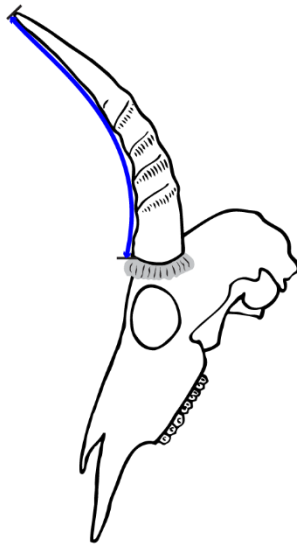

Figure 11 Reedbuck
All species of reedbucks, but especially the common reedbuck, form a pulpy section at the base of the horn. This soft material can easily be penetrated with the point of a knife. This is horn in formation but not hard horn, and it must not be measured. Probe the horn for soft material with a knife point; the demarcation between soft and hard horn will be the point where you start your measurement. (Figures 11 and 12) Most of the soft, green material will be removed during the cleaning process, but sometimes a leather like residue will remain. This should not be measured, so be careful where you place the tape measure at the start. A reedbuck is best measured after cleaning but before mounting as the exact base of the horn will be much more easily discerned. With mounted reedbuck heads, you will often find the taxidermist has used materials to build up an artificial pulpy section—this artificial material must not be measured. With a mounted head, remember that just because the material feels hard to the touch, this does not mean it is horn. Probe with a knife point to find out where to start the measurement of the horn length.
1. Length. Measure the length of each horn on the front curve (in the center of the horn) from the lowest edge of the base to the tip. Do not measure the “green” or soft horn that forms a pulpy section at the base of the horn. (Figures 11 and 12) With reedbucks the horns curve up and forward and with some varieties they also curve inward; with such heads it is easy to slowly slide off to the outer curve of the horn rather than staying on the front. Make sure to stay in the center front of the horn.